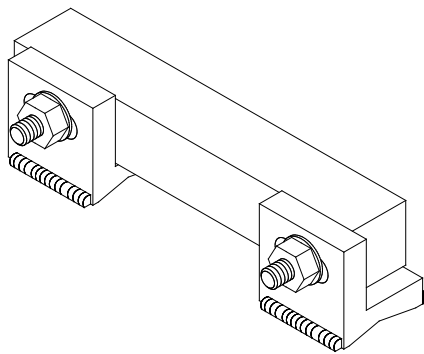

Figure 2
- 2.6. Weld the mounting block/spacer bar unit to the axle along two edges of each mounting block, see Figure 2. Do not weld all around the mounting block and do not weld on the sides with the “V” groove, see Figure 2. Use low hydrogen rod such as AWS E 7016.
- 7.3. Using the Left Side J-Bracket (P/N 1400103L), repeat Steps 1 and 2. Make sure all edges are parallel and at the same height. See Figure 2.